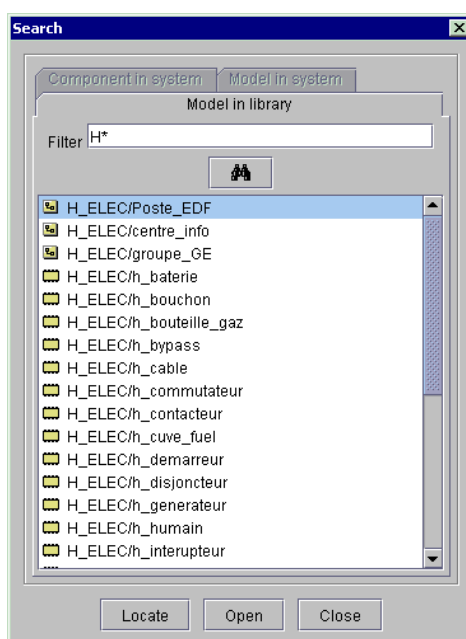

Figure 117 : Models search
- ◆ Use the **Edition – Search** menu or the **CTRL + B** command on the keyboard or the  icon in the standard tool bar; the *Search* window is displayed (Figure 117).